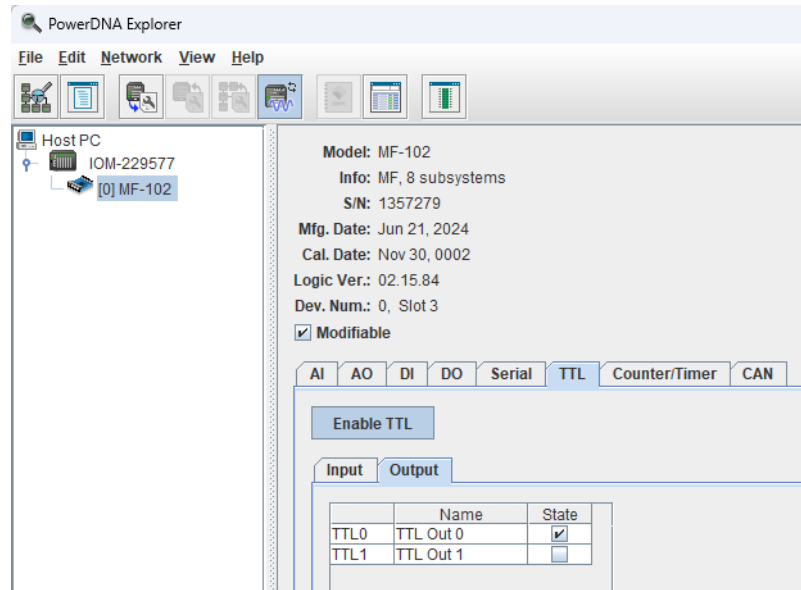

Figure 3-17 PowerDNA Explorer TTL Tab, Output Subtab
3.9.2 Write TTL Data The TTL Output subtab (**Figure 3-17**) contains the following columns: